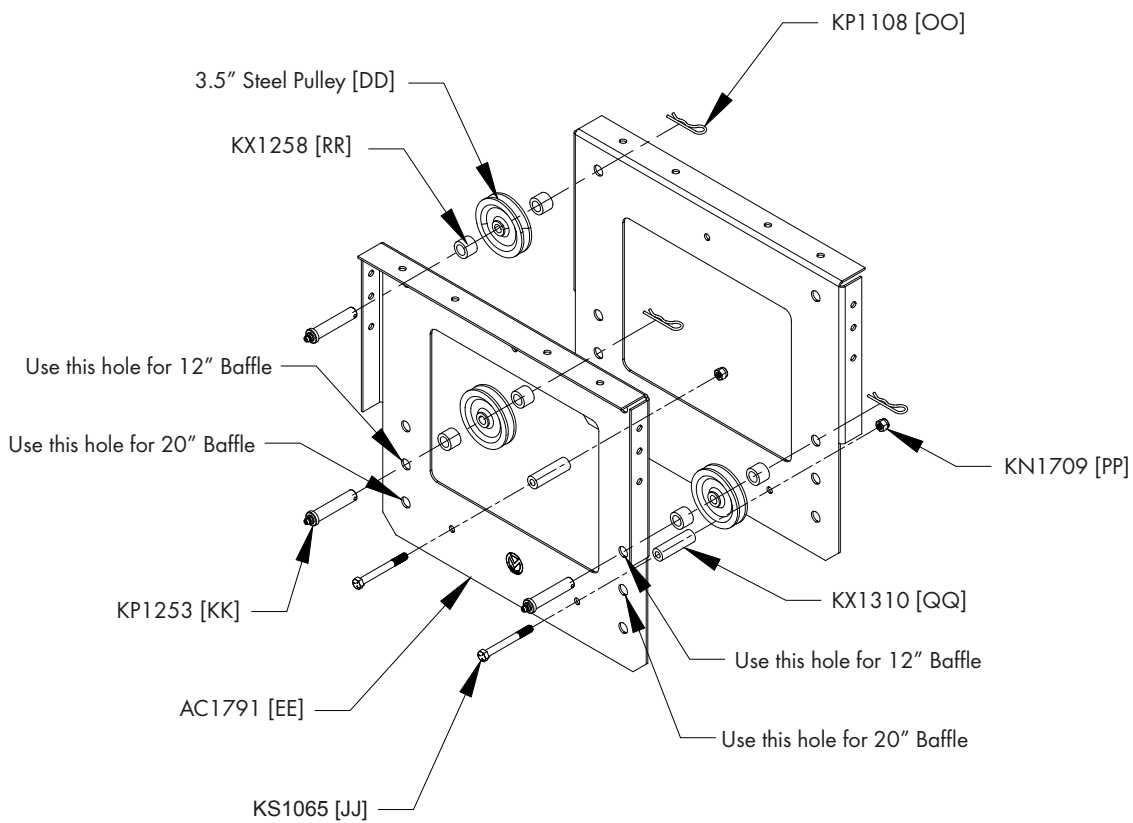

Figure 17
Locate (2) Cable Transition Plates [EE] and fasten them together with (2) KS1065 Bolt [JJ], KX1310 Spacers [QQ] and KN1709 Nuts [PP]. Also install (3) KP1253 Greaseable Clevis Pins [KK], 3.5" D Steel Pulleys [DD], (6) KX1258 Plastic Spacers [RR] and (3) KP1108 Cotter Pins [OO]. See Figure 17.